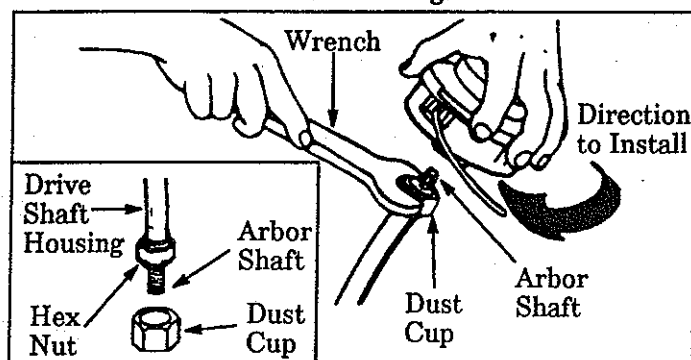

Figure 5
- Place the Dust Cup on the Drive Shaft Housing over the hex nut that is assembled on the arbor shaft. Figure 5.
- Thread the Trimmer Head onto the Arbor Shaft against the Dust Cup and hand tighten firmly. Figure 5.